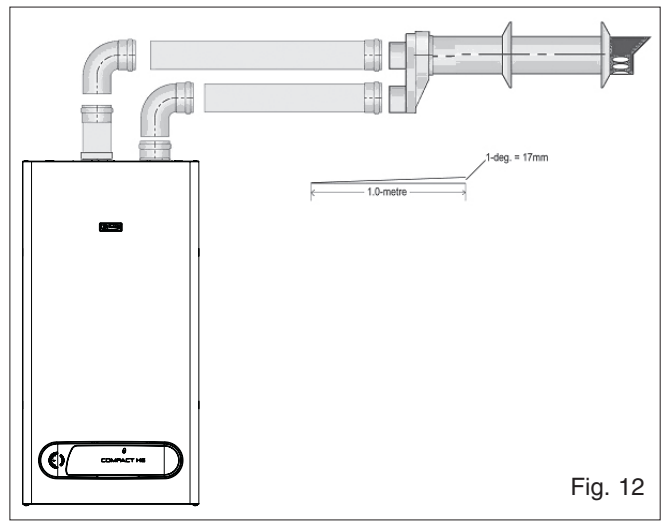

Fig. 12
- Insert the exhaust connection manifold (A) onto the appliance flue outlet.
- Remove the blanking plate (located to the right of the appliance flue outlet) and – using the same screws – install the air inlet plate (B).
- Using the hole in the exhaust connection manifold as a guide, drill a 3mm hole in the appliance flue spigot and secure the exhaust manifold connection to the flue spigot using the screw provided (C).
4.5.3.2 HORIZONTAL TERMINATION (see fig. 12)